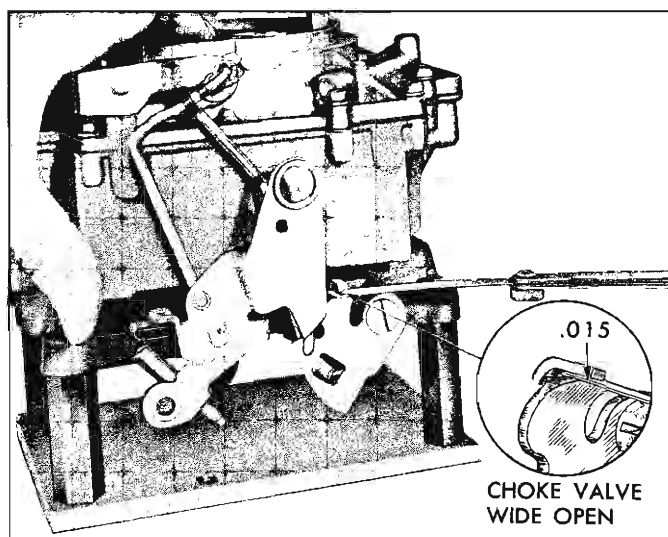

Fig. 25—Checking Secondary Throttle Contour Clearance Adjustment
- **Secondary Throttle Contour Clearance Adjustment**—With choke valve held wide open and fast idle cam and secondary lockout lever positioned as shown in Figure 25, check clearance between cam and tang. Proper clearance should be .015". To adjust if necessary, bend tang vertically using J-6058-A bending tool.